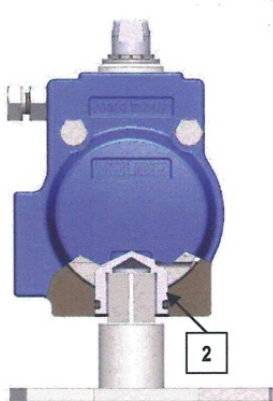
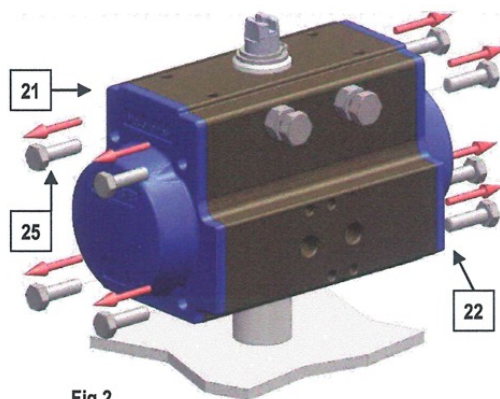
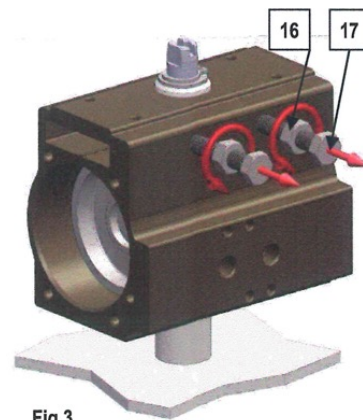

Fig.1
Fig.2
Fig.3
4. Place the actuator on a support with a square of the same size of the pinion ( 2 ) so as to easily execute the below listed operation (see Fig. 1):
5. Before disassembling the actuator check from the label on the body whether it is a double acting (DA) or spring return (SR ) type;
6. For DOUBLE ACTING ACTUATOR: Unscrew in crossed sequence the screws ( 25 ) for fastening the end caps ( 21-22 ) see Fig. 2
7. For SPRING RETURN ACTUATOR: Unscrew GRADUALLY in crossed sequence the screws (25) for fastening the end caps ( 21-22 ), Fig. 2; Note: the screws are long enough to hold the springs even if extended; Loosen nuts ( 16 ) and unscrew completely screws ( 17 ) see Fig. 3 ;